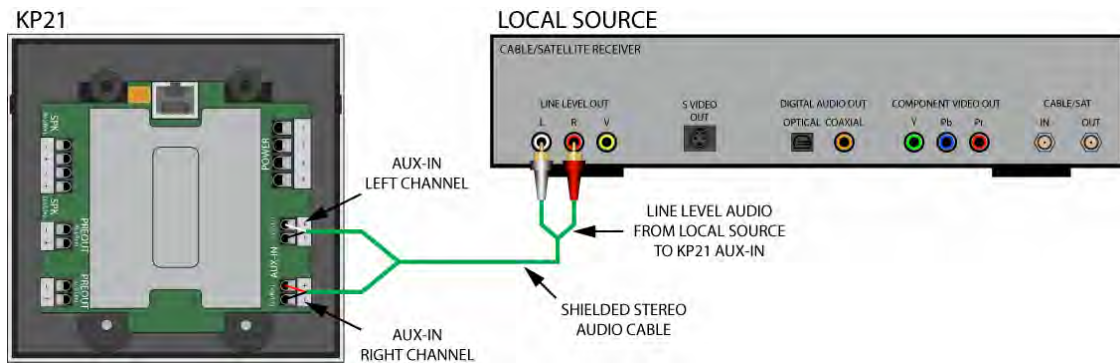

Figure 96 KP21 AUX-IN Connections
1. Using a CAT5e cable properly terminated with an RJ45 connector, connect the cable from one of the **Multiroom Link Terminals [circle 30]** on the AVR21EN, to the **AVH21 Hub Terminal [hexagon 23]** on the KP21 rear panel as shown in **Figure 96**.
1. Using a CAT5e cable properly terminated with an RJ45 connector, connect the cable from the appropriate AVH21 A/V Hub **KP Terminal [pentagon 5]** to the **AVH21 Hub Terminal [hexagon 23]** on the KP21 rear panel as shown in **Figure 96**.
2. Insert the twisted ends into the appropriate slots on the **R+/R-** and **L+/L- AUX IN Terminals [hexagons 29, 30]** on the KP21 rear panel as shown in **Figure 96**, and tighten with a small blade screwdriver. Pull the wire slightly to confirm connection.
4. Connect to local source Left and Right line level audio outputs as shown in **Figure 96**.